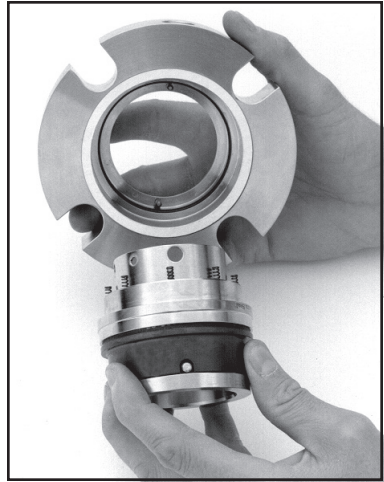

Figure 15
4.3.8 **Place the gland ring over the stator** being careful to engage the anti-rotation pins. See Figure 15.